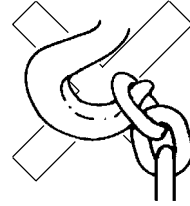
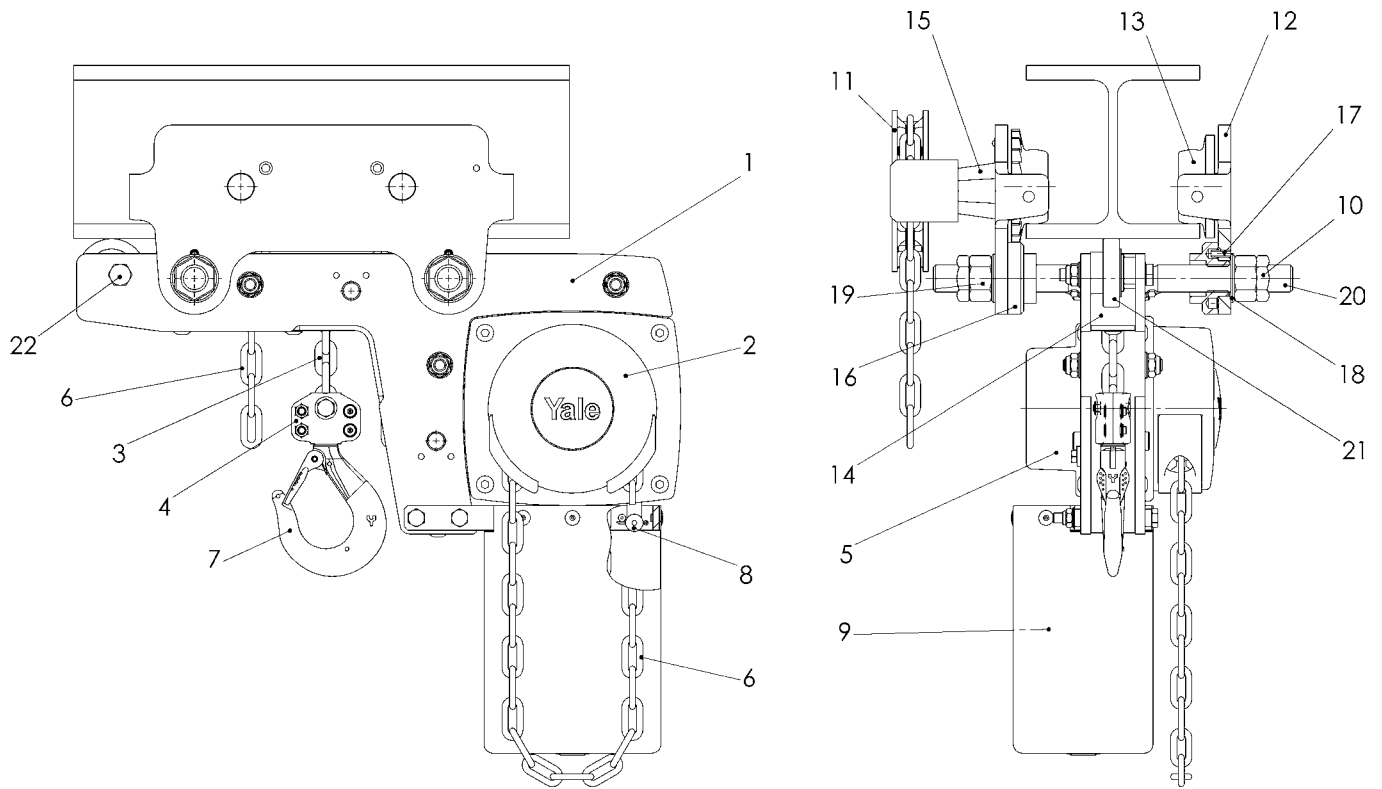

Fig. 8
Fig. 11
- Never attach the load on the tip of the hook (Fig. 8).
- Do not use the chain stop as an operational limit device (Fig. 11).
LHP/G (Fig. 10 and Fig. 11)
The chain stop must be connected to the free (idle) chain strand (Fig. 11).
Pulling the hand chain (Fig. 11) in clockwise direction will raise the load. The load must always be seated in the saddle of the hook. Never attach the load on the tip of the hook (Fig. 8).
Pulling the hand chain (Fig. 11) in anticlockwise direction will lower the load.